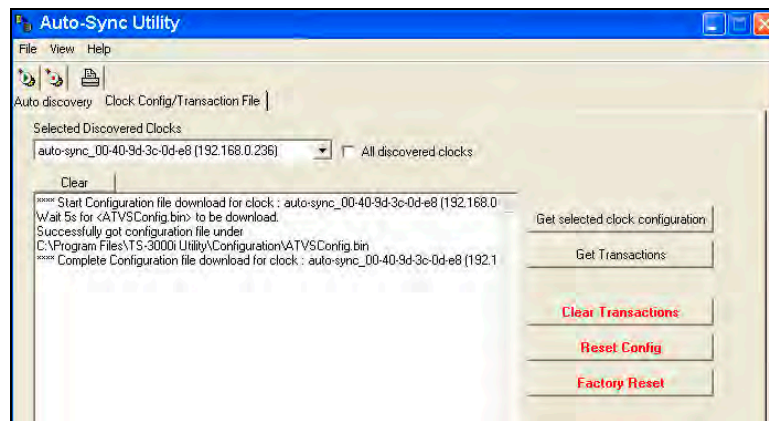

Figure 5-20. Auto-Sync Utility Get Configuration File.
**Get selected clock configuration:** copy the configuration file from the selected clock to a binary file with the name "ATVSConfig.bin". This file will be located in a folder called Configuration at the following path **Program Files/Auto-Sync Utility/Configuration**. If multiple clocks are selected, the first clock downloaded will be the one copied to this file. If another clock is copied to that file at a later date then the configuration will be updated with that information. See the status window in Figure 5-20 for an example of configuration file download.